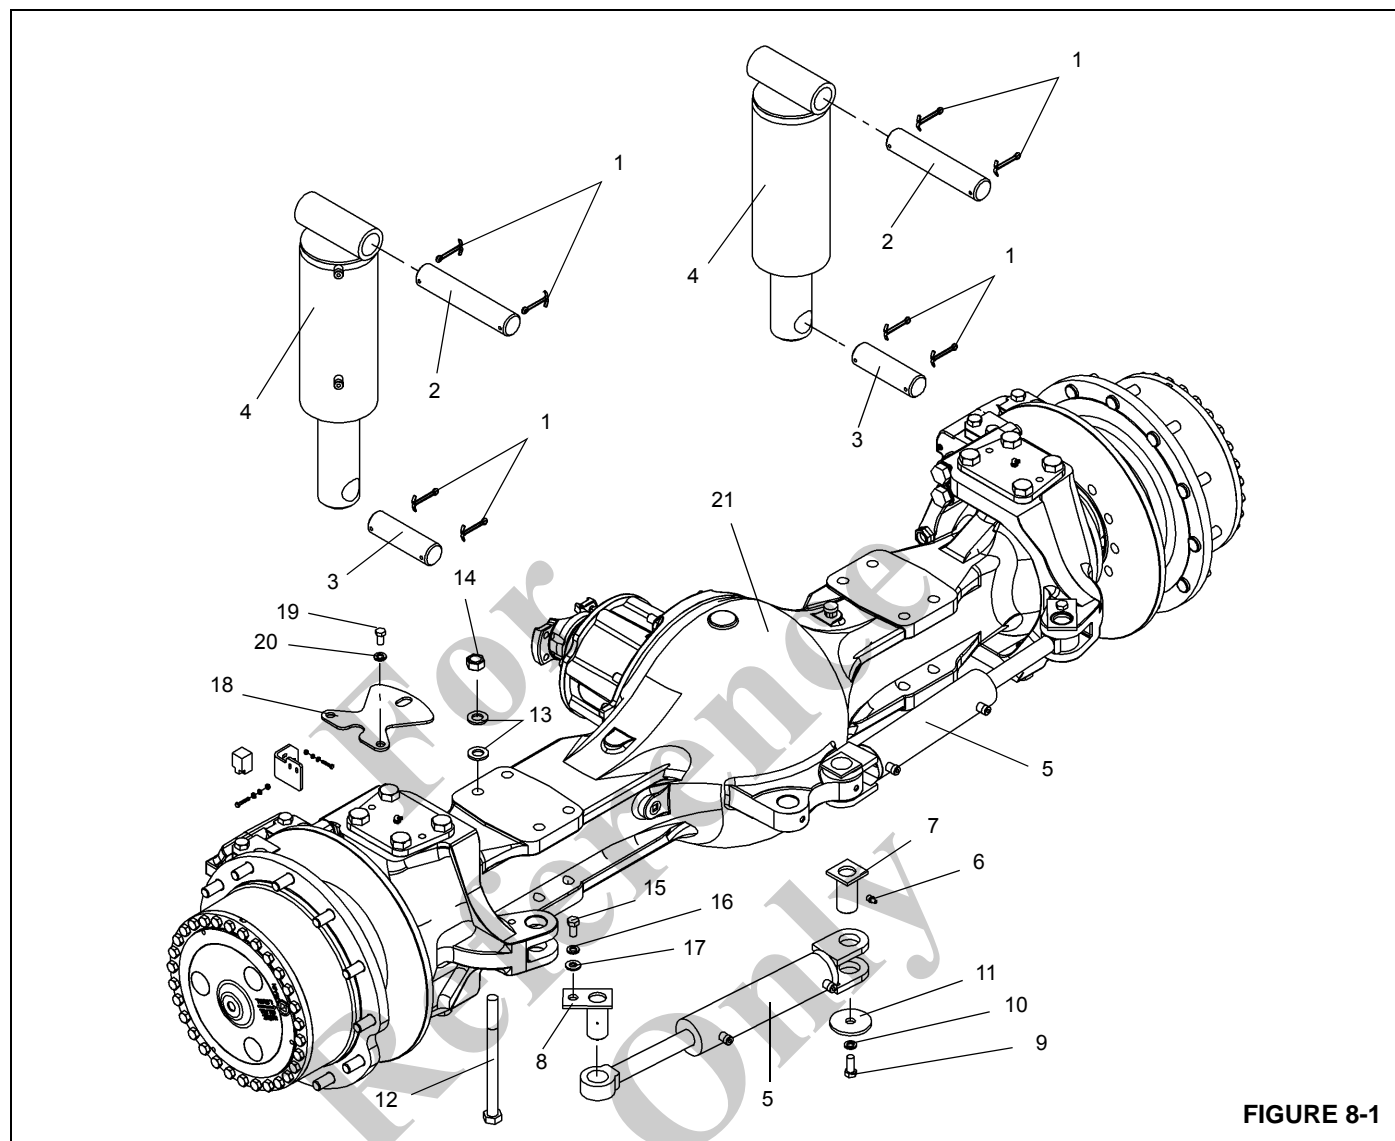
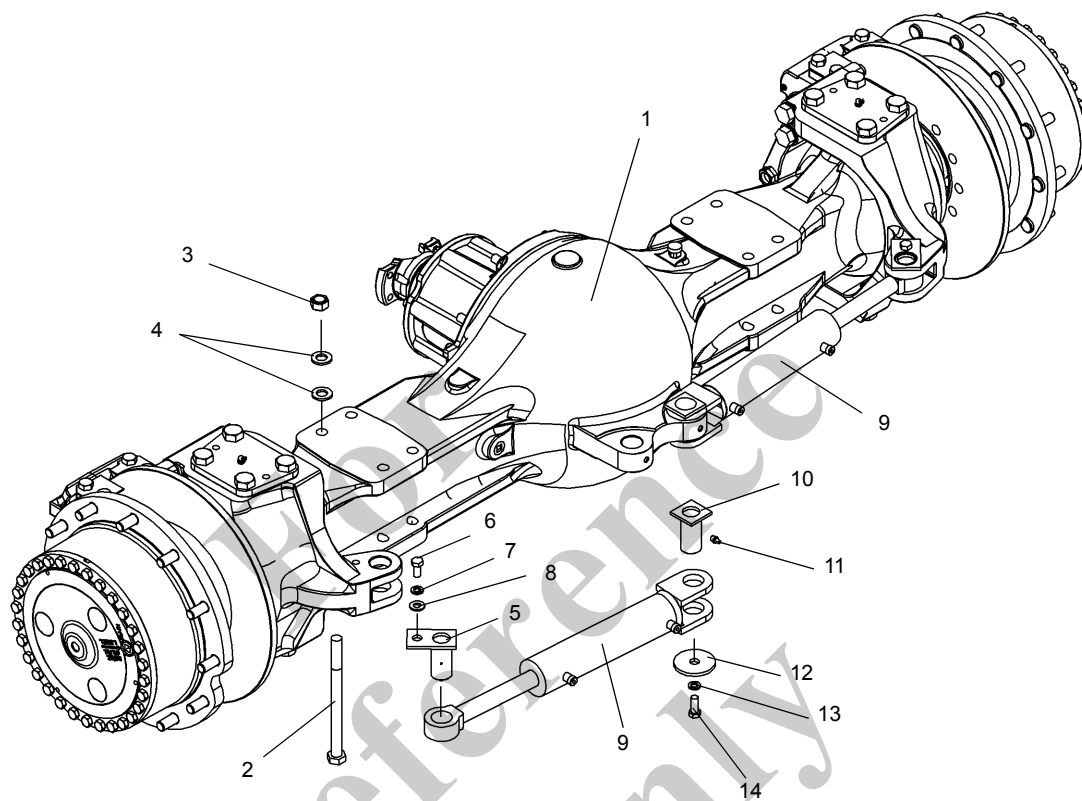

FIGURE 8-1
FIGURE 8-2
9. Remove the eight nuts, washers, and capscrews securing the axle to the frame/cradle (Figure 8-1) (Figure 8-2).